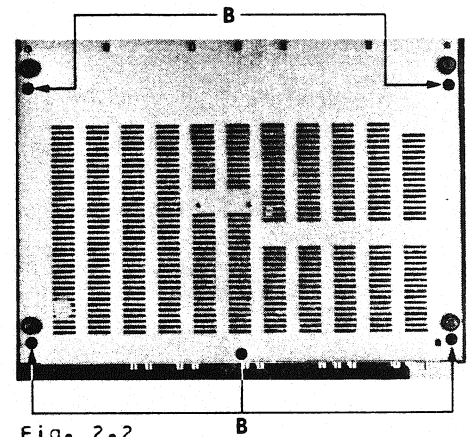

Fig. 2.2
2.2 Removing the lower cover (Fig. 2.2)